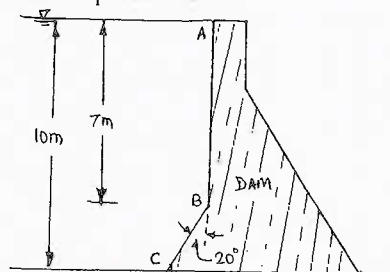

Fig.Q.3(b)
- b. A gravity dam shown in Fig.Q.3(b) withhold water to a depth of 10m. Upstream face of dam is vertical for 7m depth and inclined at  $20^\circ$  with vertical for the remaining height as shown in figure. Determine the pressure force on vertical and inclined faces per unit length of dam. Also locate their respective center of pressures. (12 Marks)